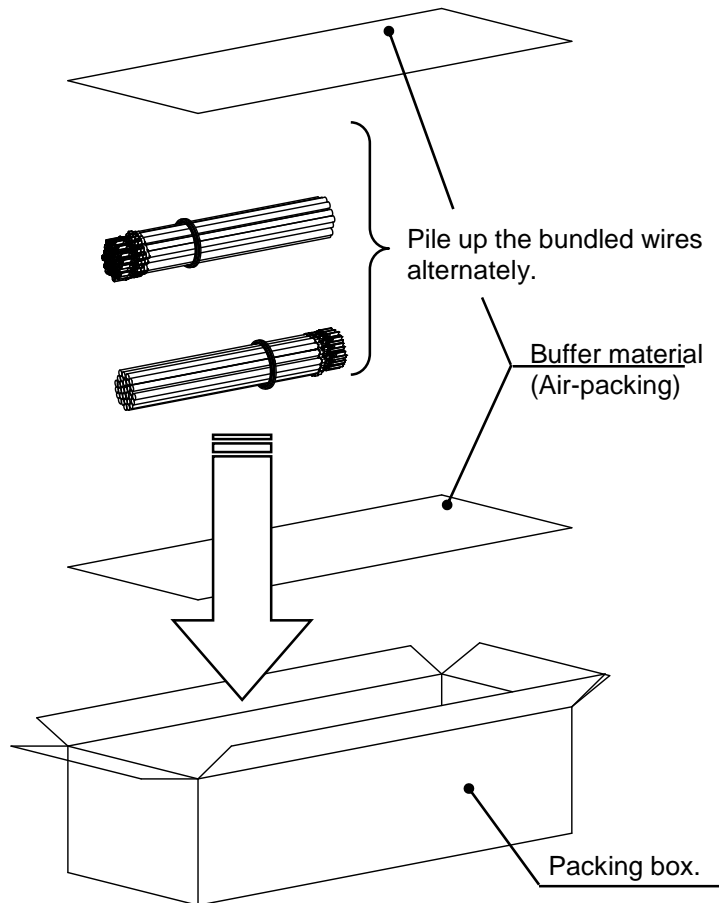

Fig. 5-2
- ※When packing bundled harnesses after processing in package box, in order for force not to be applied to connector for a long period of time by piling up, please put product alternately (cross shape) in a fitting box. **(Fig.5-2)**
In order to avoid applying force to connector for a long period of time by stacking the wires, please lay buffer material. **(Fig.5-2)**